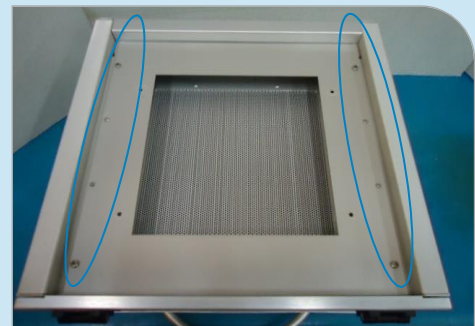

Figure 3. Light Shield Top Cover, M4 x 8 mm Screws
7. Remove the M4 x 8 mm screws from the top cover of the ECE Light Shield (Figure 3).